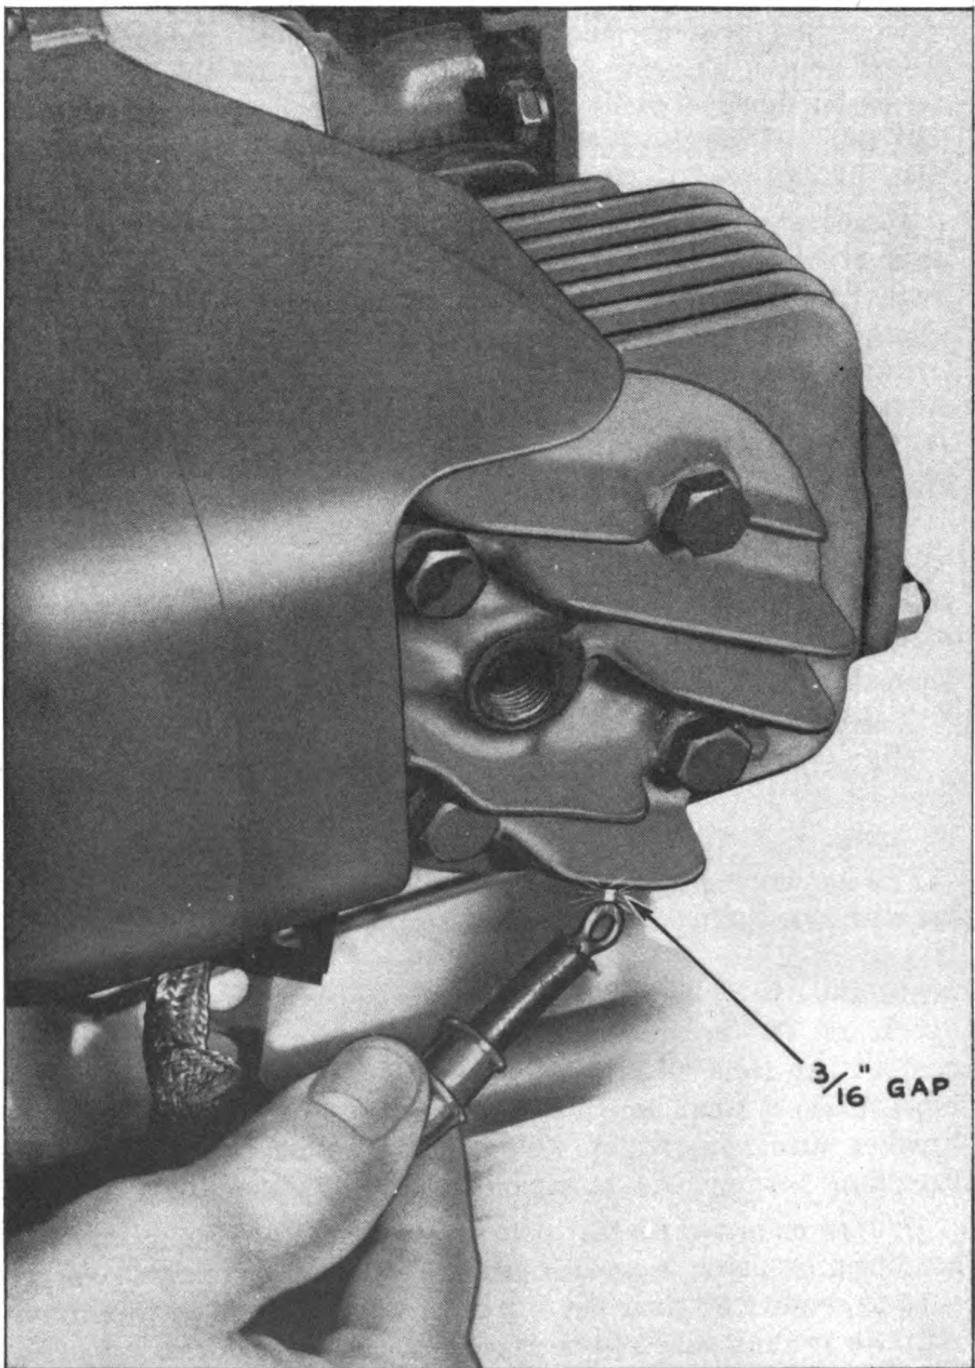

FIG. 10—TEST FOR SPARK OUTPUT
b. *Magneto*.—It is recommended, if there is an indication the magneto is causing trouble, that a test be made before attempting to repair it. If the engine refuses to start after it is determined the spark plug is all right, check magneto by holding high tension wire (25) $\frac{3}{16}$ " away from a point on the engine (See Fig. 10, Page 21). When the engine is cranked in the usual manner, a properly performing magneto will have a spark output strong enough to jump the prescribed gap.